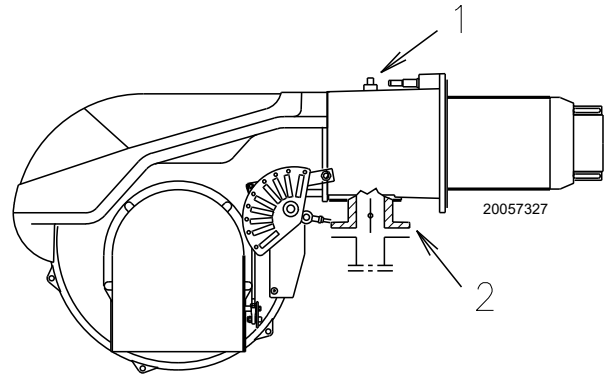

Fig. 23
Gas pressure measured at test point 1)(Fig. 23 on page 23), with:
Pressure drop at gas butterfly valve 2)(Fig. 23 on page 23) with maximum opening: 90°.
- subtract the combustion chamber pressure from the gas pressure measured at test point 1)(Fig. 23).
To calculate the required gas pressure at test point 1)(Fig. 23), set the maximum modulating output required from the burner operation:
- Read, on the right (column 1), the pressure at the test point 1)(Fig. 23).
pressure required at test point 1)(Fig. 23).